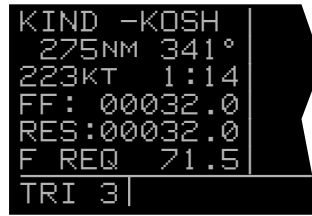

Figure 5-12
1. Select the TRI 3 page on the left side (figure 5-12).